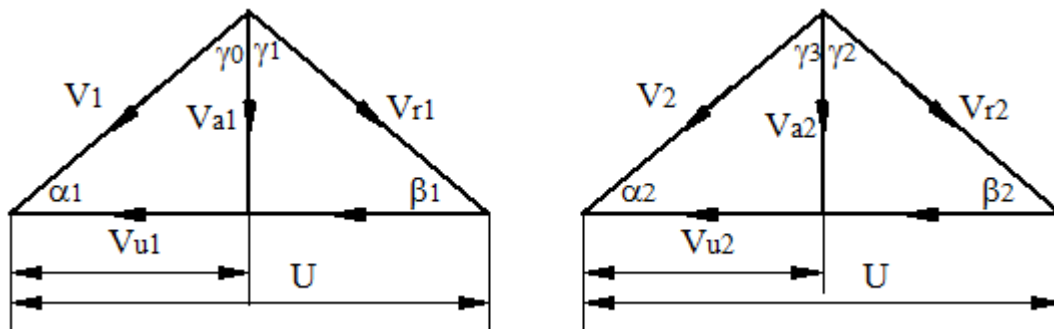

Fig. 3.18 General velocity diagram for axial flow compressor stage
**Answer:** The general velocity diagram for axial flow compressor stage is as shown in figure 3.18. For axial flow machines the blade speed and the axial velocity may assume to be constant. That is,  $U_1 = U_2 = U$  and  $V_{a1} = V_{a2} = V_a$